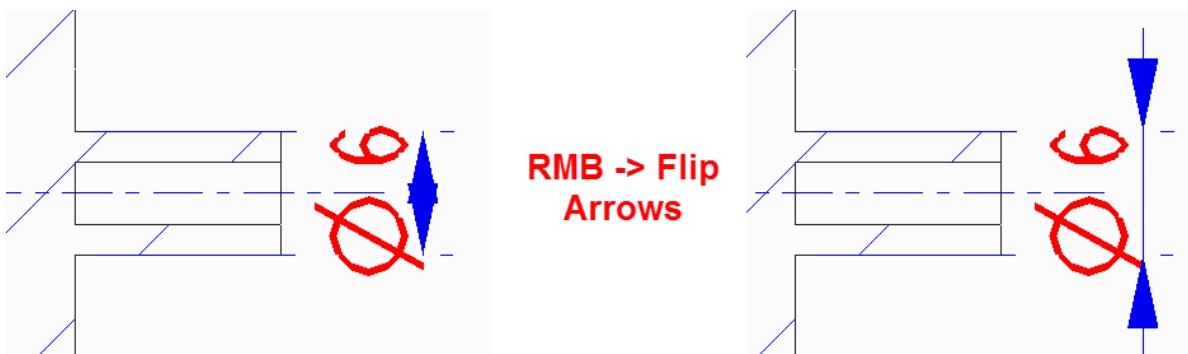

Figure 18: Flipping arrows.
- If you want to change the arrow direction of the dimensions, Select a dimension, click and hold **RMB** for the menu, select **Flip Arrows** (Figure 18).